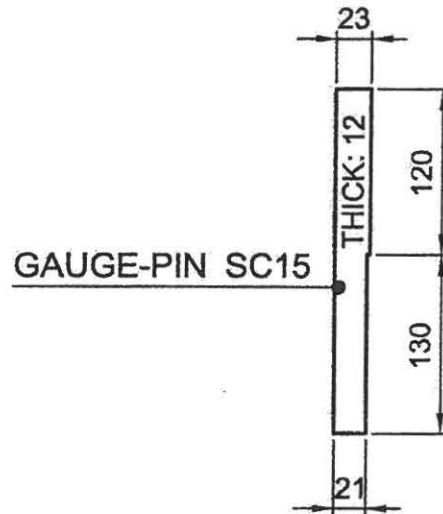
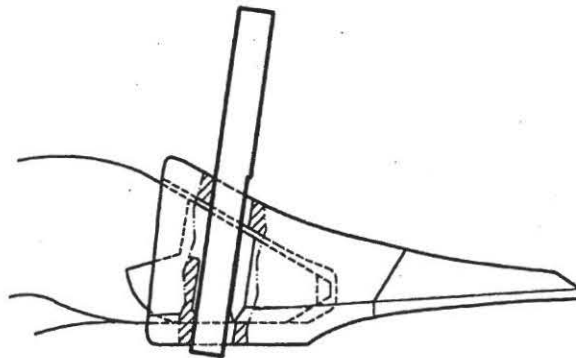

Figure 10.2
Figure 10.3
3. **Check fitting.** (figure 10.3) Weld and grind until fitting is tight as well as the slot for the locking has the right size. Use a gauge-tooth and chalk or paint to check fitting of the contact surfaces. Use a locking gauge-pin (figure 10.2) for checking the size of the slot. The minimum size is 21 mm, the maximum size is 23 mm.